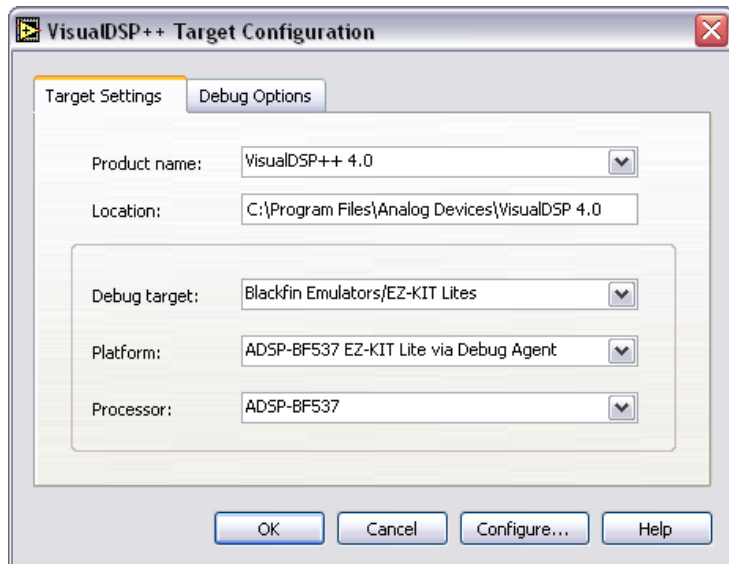

Figure 15. Configuring the Target Settings
4. Select **ADSP-BF537** from the **Processor** pull-down menu as shown in Figure 15.